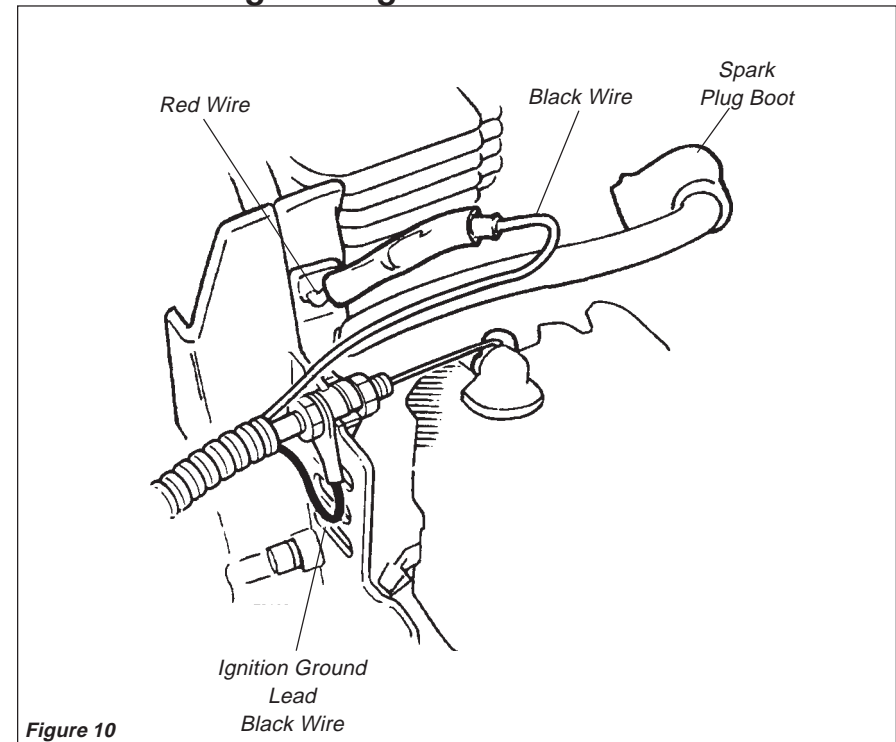

Figure 10
1. Insert the throttle cable housing into the notch on the fan cover, and clamp the black wire's connector between the fan cover and the cable outer adjuster nut. See Figure 10.
3. Using finger pressure only, connect the black switch wire from the cable tube to the red ignition wire on the powerhead. Wire routing must be as shown in the illustration with the black wire located over the spark plug wire. See Figure 10.